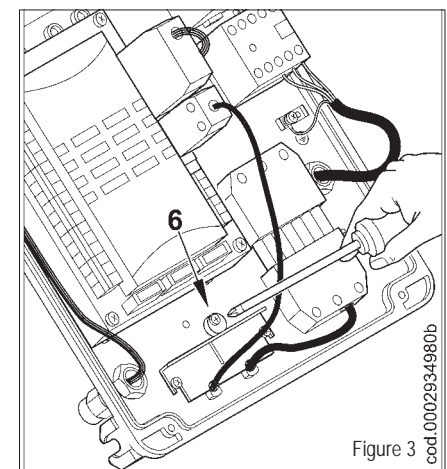

Figure 3
- 3) Reposition the cable float plate as in figure 3. Turn the cam (6) so that the plate exerts sufficient pressure on the two cables, then tighten the screws that fasten the plate. Finally connect the two 7 and 4-pole plugs.